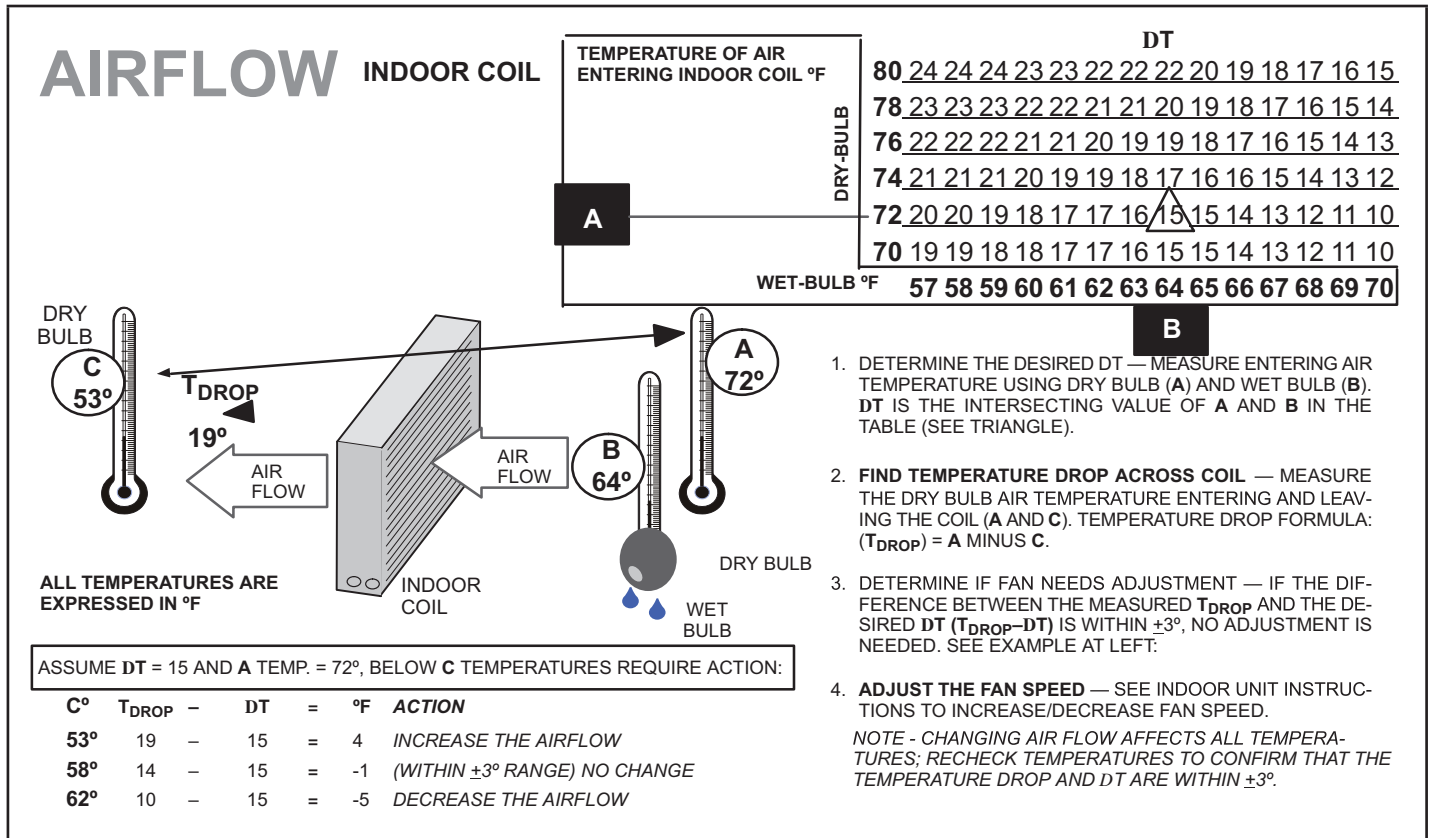

FIGURE 21. Checking Indoor Airflow over Evaporator Coil using Delta-T Chart
This system uses R-454B which operates at slightly lower pressures than HFC-410A. The field-installed liquid line filter drier is approved for use with R-454B. Do not replace any components designed for use with HCFC-22. Check airflow using the Delta-T (DT) process using the illustration in FIGURE 21.